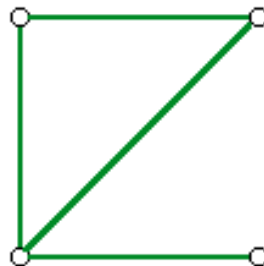

Figure 8: Unit Cell
- For this case, Figure 8 displays the unit cell